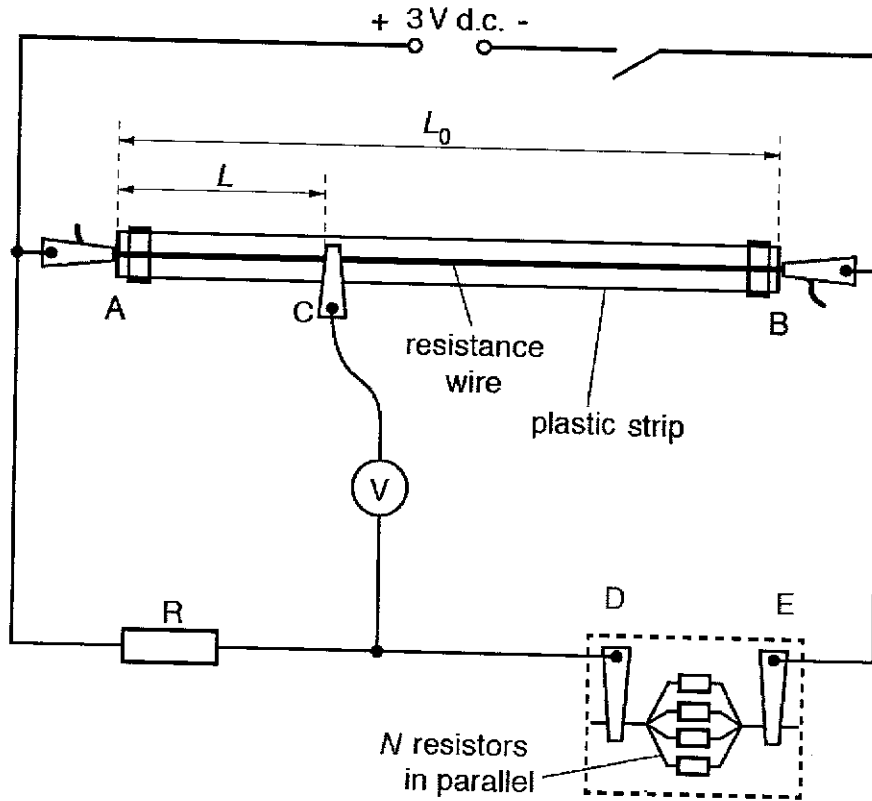

Fig. 1.1
(a) Assemble the circuit as shown in Fig. 1.1
Measure and record the length  $L_0$  of the resistance wire between the ends of A and B, as shown in Fig. 1.1.
- (b) (i) Select from the groups of resistors connected in parallel,  $N=4$  and connect it across D and E as shown in Fig.1.1.
(ii) Close the switch. Move C along the wire until the voltmeter reading is zero. Measure and record the distance  $L$  between A and C when the voltmeter reading is zero, as shown in Fig. 1.1.